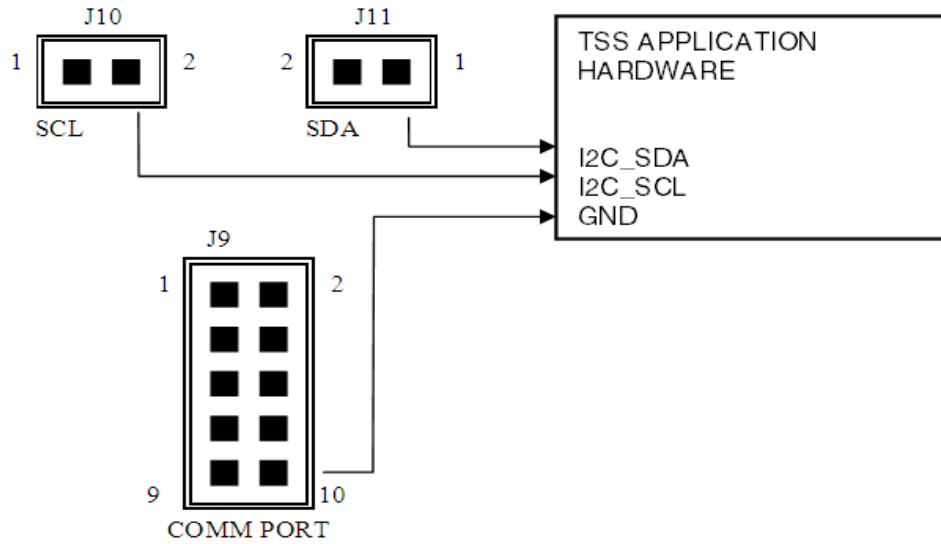

Figure 2-13. Connections Between the TSS Application Hardware and the TSSEVB Board
4. Connect the I2C lines from your application to connector J10 and J11 as shown in Figure 2-13. You must also have a ground (GND) connection between the TSS application hardware and the TSSEVB. The TSSEVB Communication module provides the pull-up resistors for the I2C communication.